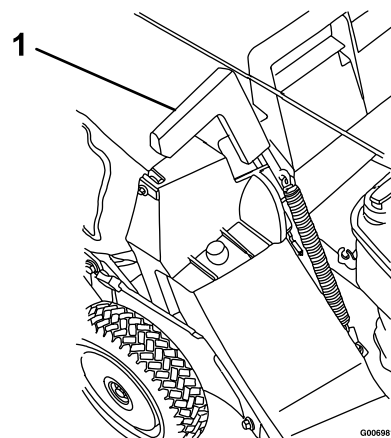

Figure 15
5. Pull the discharge door handle forward until the pin clears the catch, and move the handle rearward until the pin locks in the bag notch (Figure 15).